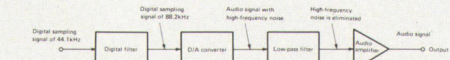
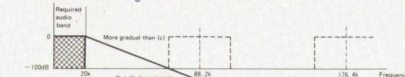

Fig. 3 Configuration with Digital Filter and Audio
Fig. 2 Spectrums of D/A Converter Output, Function of Low-pass Filter, and Filter Characteristics at Oversampling
Then, what frequency components are contained in the output signal of the D/A converter? The spectrum of the sampled output signal is as shown in Fig. 2 (a). In addition to audio signals of up to 20kHz, contained are radio-frequency noise components ranging up to TV broadcast frequency bands such as 44.1 \pm 20kHz, 88.2 \pm 20kHz which is two times the original sampling frequency, 132.3 \pm 20kHz, three times the original sampling frequency, and so on. These components are outside the audible frequency range. Therefore, some may think, they are inaudible and need not be eliminated. However, the radio-frequency noise components will, in fact, cause the following serious problems.
A low-pass filter passes all frequencies below a specified frequency with little or no loss and discriminates strongly against higher frequencies. A filter whose attenuation is flat up to 20kHz, and sharply drops down to -80dB and even to -90dB if possible at 24kHz is preferable for the filtering process in the CD player. Low-pass filters are used in preamplifiers; however, their most sharp cutoff characteristic is -18dB/oct. Fig. 2 (b) shows the cutoff characteristic with conventional filters rated at -18dB/oct. Their attenuation are -18dB at 40kHz, -36dB at 80kHz, and
-64dB at 160kHz. Therefore, these filters are not suitable for eliminating high-frequency noise components. A number of filters, each of which has the cutoff characteristic as shown in Fig. 2 (b), should be connected in series for sharp cutoff as shown in Fig. 2 (c). However, it is very difficult to realize such a characteristic that attenuation is flat up to 20kHz and sharply drops after 20kHz. Multistage (11-stage) low-pass filters are generally used in CD players. However, ripple occurs in their frequency characteristic due to deterioration of the phase characteristic. Nonlinear distortion will also be caused by a number of components used in such multistage configuration. Because of sharpened cutoff characteristic, the other characteristics of the filters are deteriorated. Therefore, if there is any method to attain the intended purpose with a gradual cutoff characteristic, these problems can be eliminated. A digital filter is intended to solve these problems.
Fig. 2 (d) shows the frequency spectrum when the sampling frequency is 88.2kHz. As apparent from the figure, the noise component at the original sampling frequency of 44.1kHz \pm 20kHz is eliminated by oversampling at 88.2kHz. Therefore, the cutoff slope of the low-pass filter can be as gradual as shown in the figure. Consequently, its phase characteristic is improved. The digital filter functions to double the original sampling frequency (or oversample at four, six, ... times the original sampling frequency). Fig. 3 shows a circuit configuration using a digital filter to eliminate high-frequency noise components. In other words, the D/A converter is sandwiched between the digital filter and the analog low-pass filter.